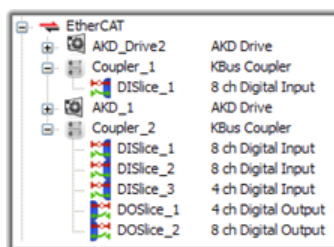

Figure 4-13: EtherCAT Network - Logical View
- Map them to items in the EtherCAT node of the Project Explorer (see "Figure 4-13: EtherCAT Network - Logical View " on page 199)